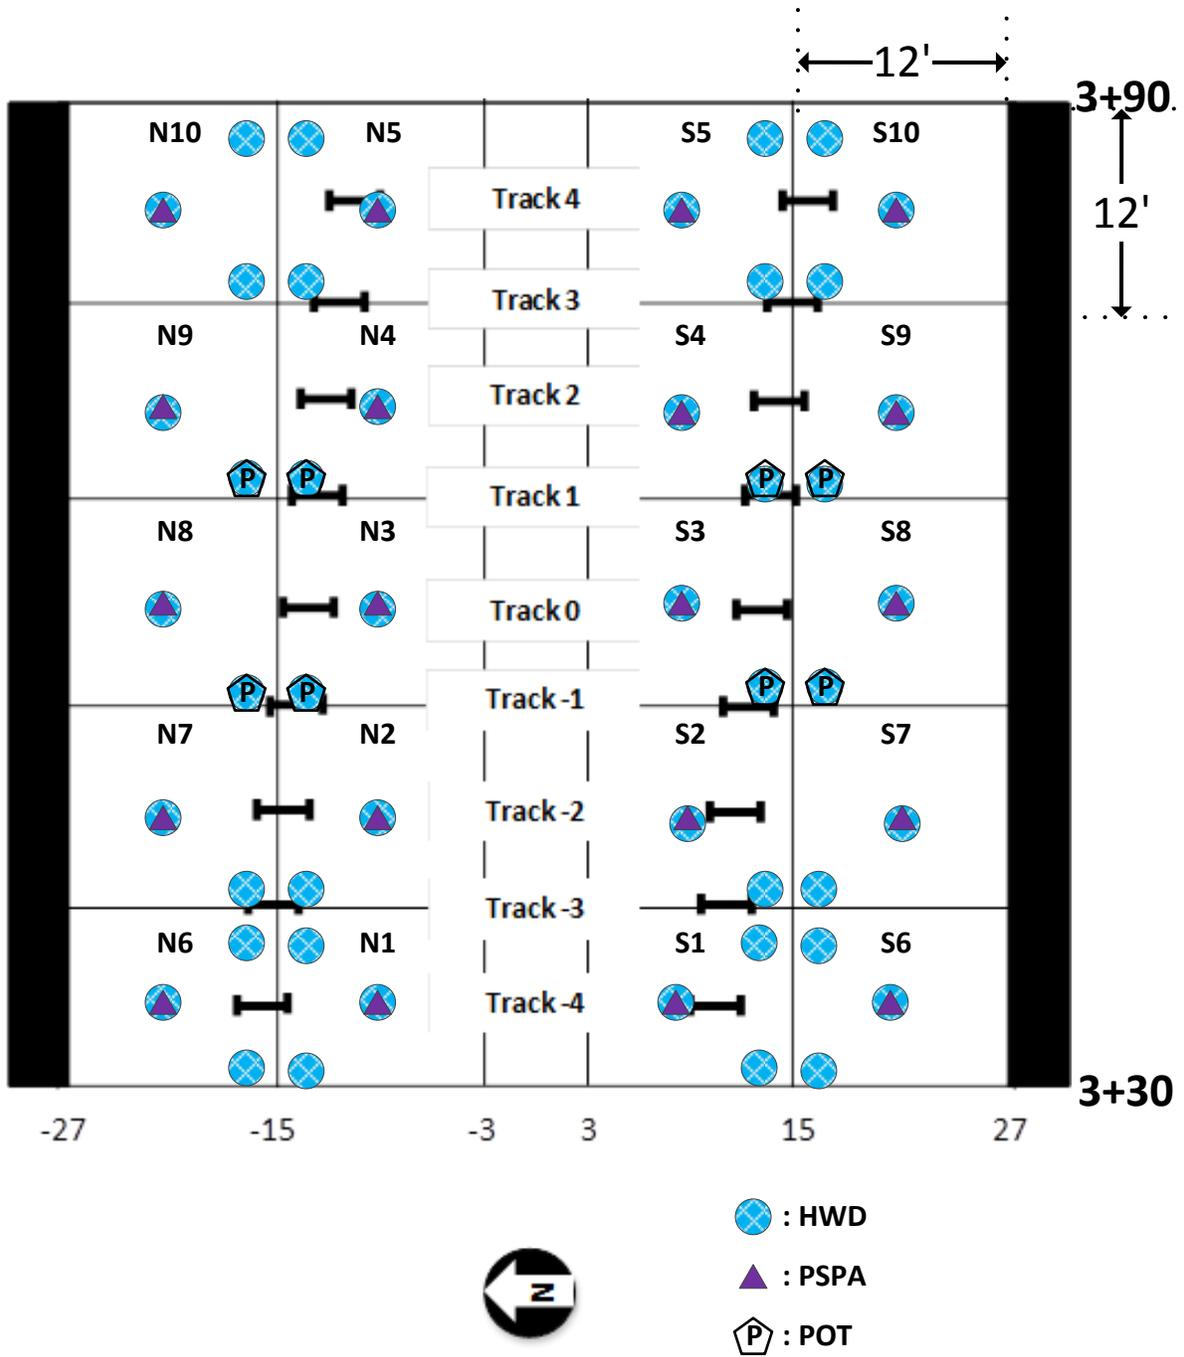

Figure 1. PSPA and HWD Test Locations.
5. **PSPA (Feb. 19):** PSPA testing will be conducted at the center of all the 20 slabs. The locations are shown in the following Figure 1.
6. **HWD (Feb. 19):** After seating loads with the NAPTV (planned for Feb. 11), HWD testing will be conducted at slab corners including POT locations and slab centers as shown in the following Figure 1. The target loading sequence will be: 4,000 lbs, 8,000 lbs, and 12,000 lbs with an approximate 12,000-lb seating load. The maximum deflection would be limited to 20 mils with 12,000 lbs. As with the PSPA, baseline HWD readings will be taken before trafficking. The deflection data will be used for monitoring modulus changes using BAKFAA, slab curling and the changing support conditions with increasing pass numbers.